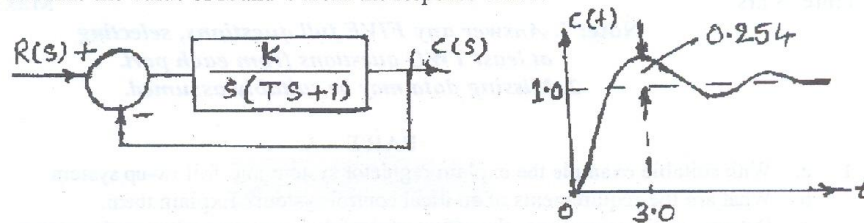

Fig. Q4 (b)
- b. When the system shown in Fig. Q4 (b) is subjected to a unit step input, it responds as shown. Determine the value of K and T from the response curve.